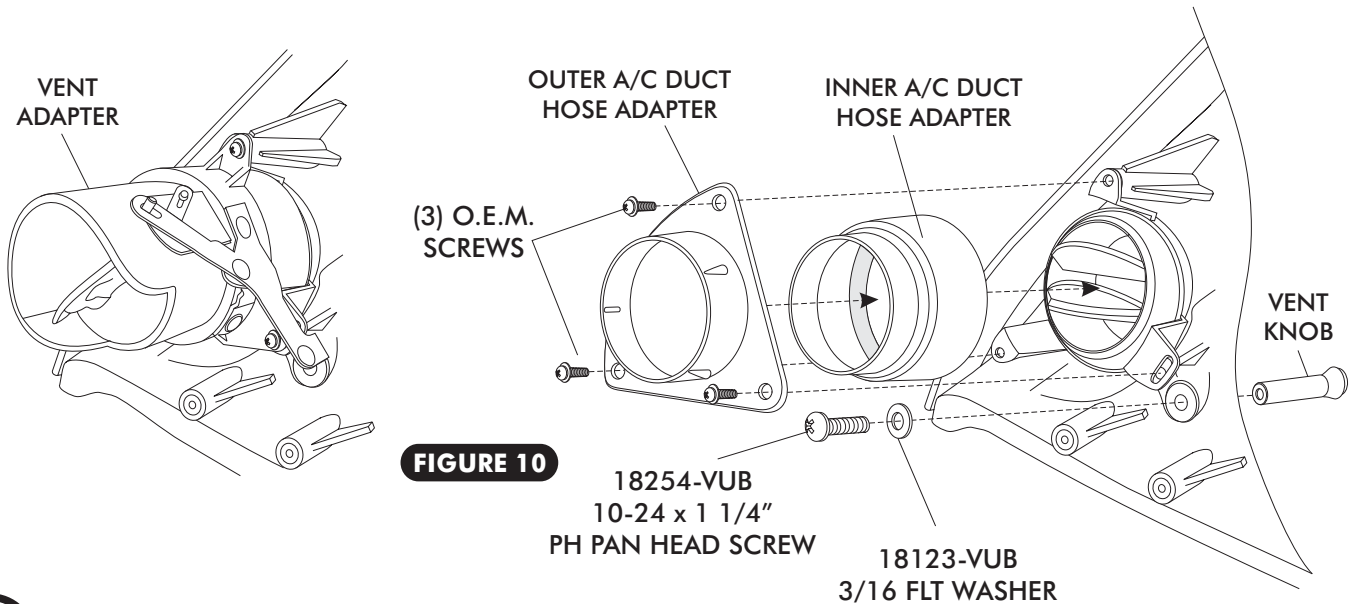

FIGURE 10
- REMOVE THE PASSENGER AND DRIVER SIDE VENT ADAPTERS (DISCARD) AS SHOWN IN FIGURE 10 BELOW. **NOTE: RETAIN MOUNTING HARDWARE.**
- INSTALL THE INNER AND OUTER A/C DUCT HOSE ADAPTERS AS SHOWN IN FIGURE 10 BELOW. USE O.E.M. SCREWS TO SECURE ADAPTERS TO DASH.
- INSTALL THE VENT KNOB AS SHOWN USING A 10-24 x 1 1/4" PH PAN HEAD SCREW AND 3/16" FLAT WASHER. **NOTE: THE PASSENGER SIDE INSTALLATION IS SHOWN BELOW IN FIGURE 10, REPEAT THE SAME STEPS FOR THE DRIVER SIDE INSTALLATION.**